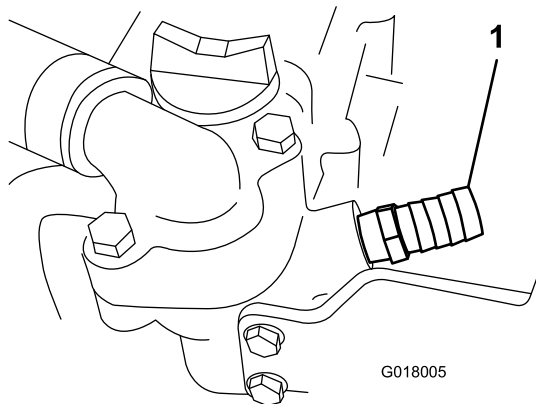

Figure 20
2. Put down a drip pan. Remove the plug under and to the front of the thermostat housing, apply pipe sealant to the threads on the 5/8 inch straight fitting, and install it on the unit (Figure 20).